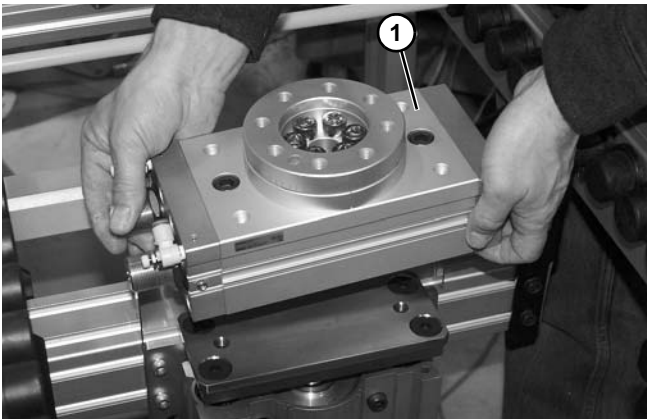

Figure 108
12. Remove rotate cylinder (**Figure 108, item 1**).